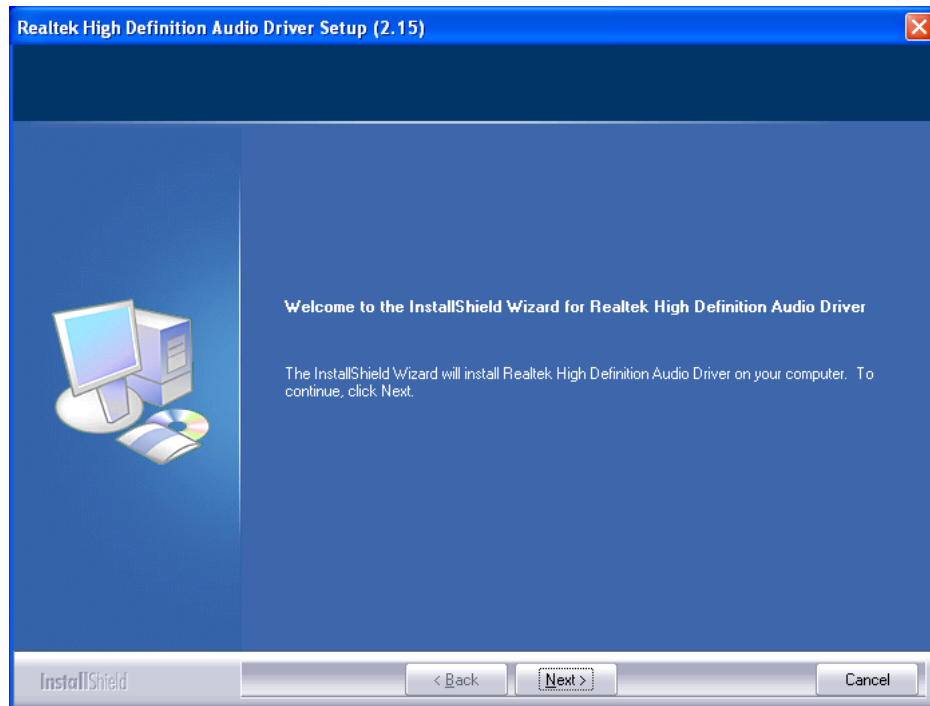

Figure 7-23: HD Audio Driver Welcome Screen
Step 3: The **Welcome** screen in Figure 7-23 appears.